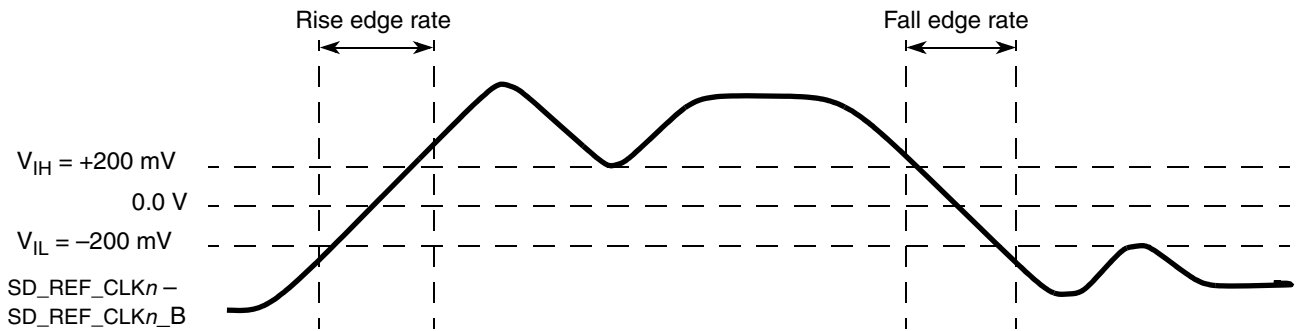

Figure 39. Differential Measurement Points for Rise and Fall Time
The differential waveform is constructed by subtracting the inverting signal (SD_TX_n_B, for example) from the non-inverting signal (SD_TX_n_A, for example) within a differential pair. There is only one signal trace curve in a differential waveform. The voltage represented in the differential waveform is not referenced to ground. Refer to Figure 39 as an example for differential waveform.
- Measured from -200 mV to +200 mV on the differential waveform (derived from SD_REF_CLKn minus SD_REF_CLKn_B). The signal must be monotonic through the measurement region for rise and fall time. The 400 mV measurement window is centered on the differential zero crossing. See Figure 39.